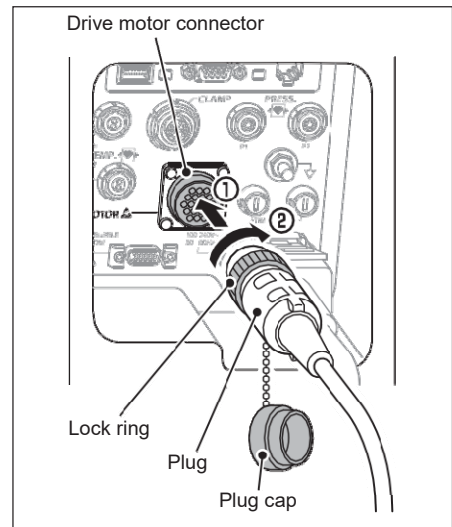

Figure 1-10
4. Remove the plug cap of the Drive Motor. Insert the plug into the drive motor connector on the rear panel. (Figure 1-10 a) Then, turn the lock ring clockwise until you hear a click. (Figure 1-10 b)